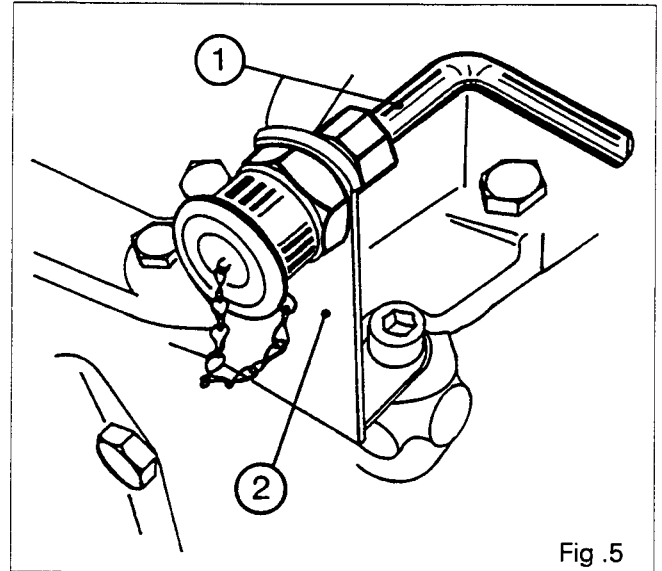

Fig. 5
8. Unscrew the pipe (1) at both ends and remove the support (2) for the trailer brake connector if fitted (Fig. 5).
10. Remove the fastening bolts (24) for the cover (10).